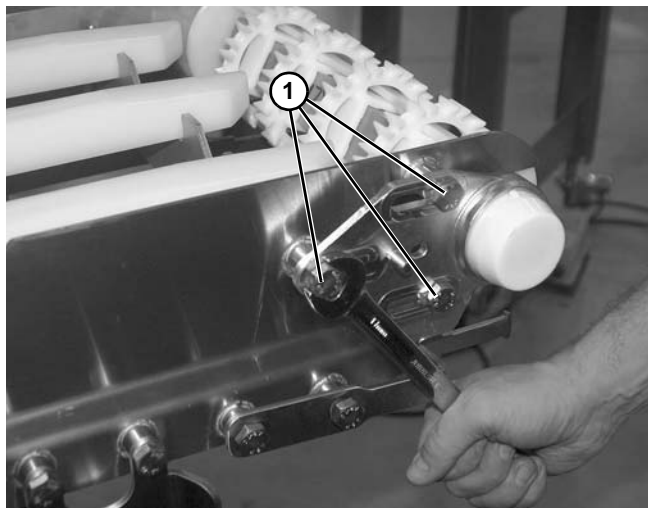

Figure 53
4. Remove the headplate screws (**Figure 53, item 1**) on both sides of the conveyor.